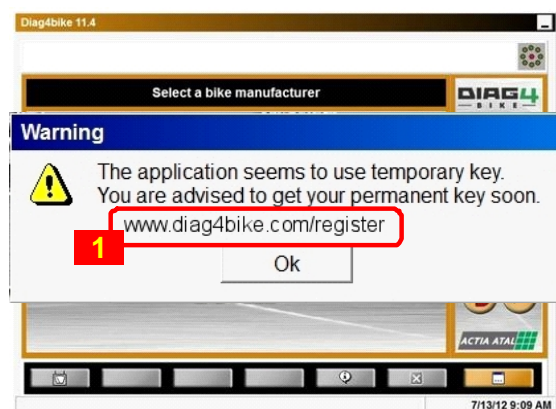
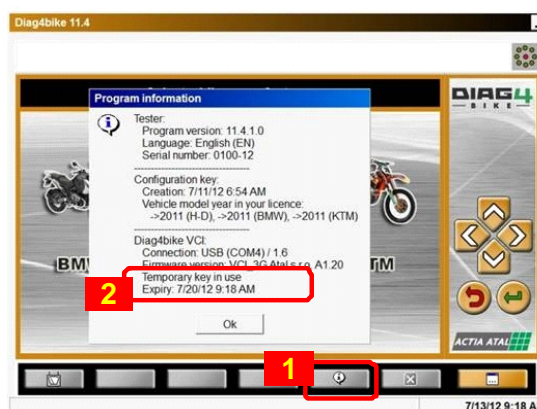

Fig. 6 – Notification of DIAG4BIKE® that a "Temporary key" is used in the application
Fig. 7 – Indication of validity of the „Temporary key“
The operator is notified about the presence of the „**Temporary key**“ by a notification (see Fig. 6) immediately after the start of DIAG4BIKE®. Further, it is recommended to the user to request **timely** the „**Permanent key**“. At the same time, the address (see pos. 1, Fig. 6) to register the program (see chapter 7.3) and to obtain the „**Permanent key**“ is indicated. Information about the validity of the „**Temporary key**“ (see pos. 2, Fig. 7) can be obtained by clicking on the „Info icon“ (see pos. 1, Fig. 7).
If the registration is not carried out **timely** and if the validity of the „**Temporary key**“ expires, the program operator is notified about this condition by a corresponding text (e.g. pos. 2, Fig. 7). Moreover, the program will be blocked for further use for motorbike diagnostics until registration is carried out.
If the entering of the „**Permanent key**“ is carried out correctly, the notification about the „**Temporary key**“ (see pos. 2, Fig. 7) disappears.